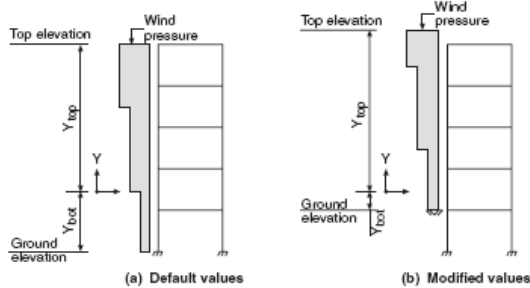
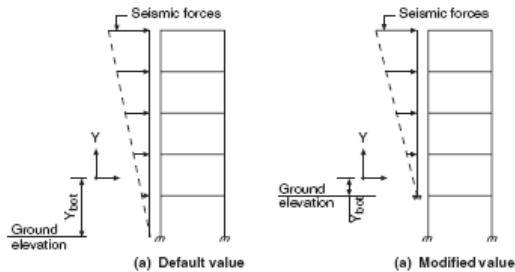

Figure 5-12 Ground and Top elevations for wind loads
Figure 5-13 Ground elevation for seismic loads
- Ybot, is the distance from the origin to the Ground elevation. The Ground elevation is the elevation below which no lateral loads will be applied to the floors. By default, Ground elevation is taken as the elevation of the lowest plane (see Figure 5-12 and Figure 5-13).
pressure will be applied over the area of the additional elevation, and the additional force will be added to the top level (see Figure 5-12).